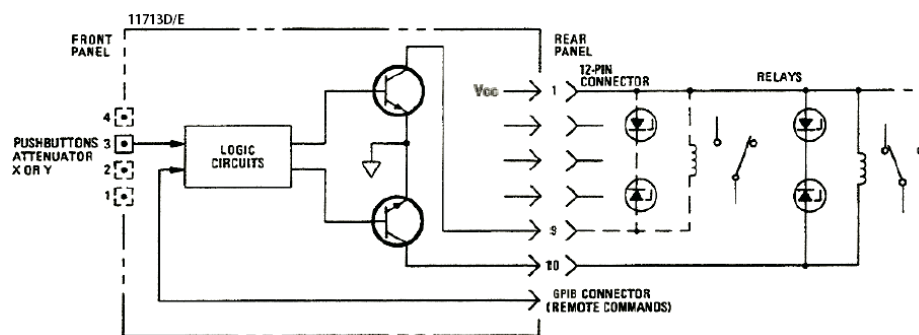

Figure 2-4 Typical connection for relay driving circuit
- Figure 2-4 below shows the connections for a simplified relay driving circuit. The circuit is adaptable for simple non-latching relays.